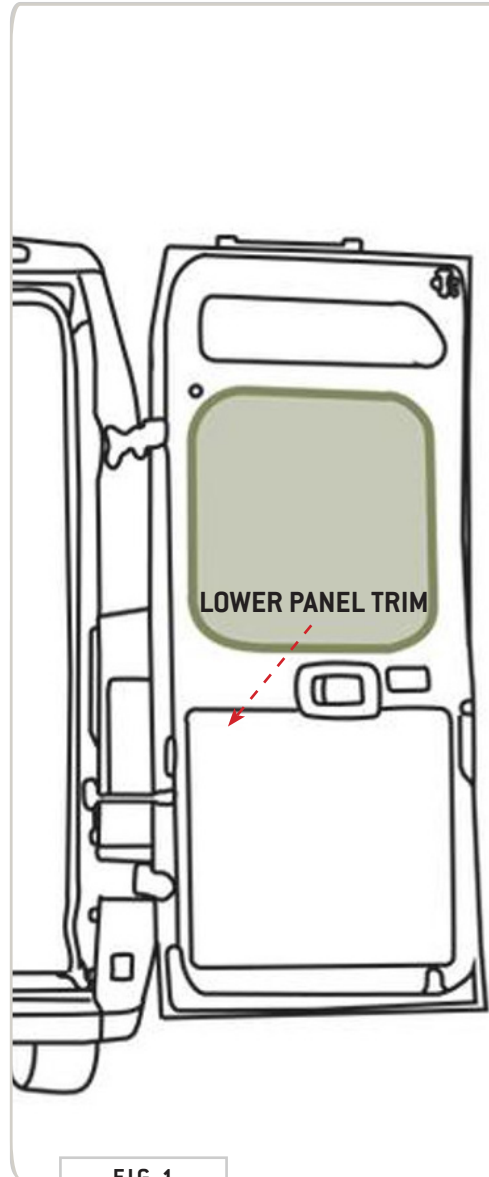

FIG 1
**1.1 Door Panel Removal:** Remove the Lower Panel Trim (FIG 1) using plastic panel removal tools. Be gentle to avoid breaking the factory panel clips. If clips get stuck in the door, pop them out and slide them back into place on the trim panel.
**NOTE-** You may have any number of different door configurations- stock full trim, stock half trim, stock panel (Pictured FIG 1), upholstered wood, etc. Each require their own removal method.